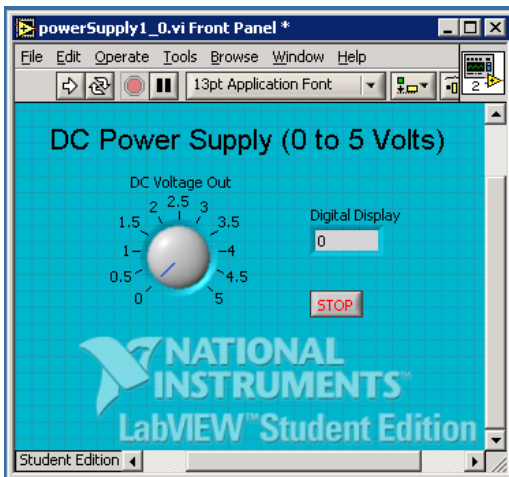
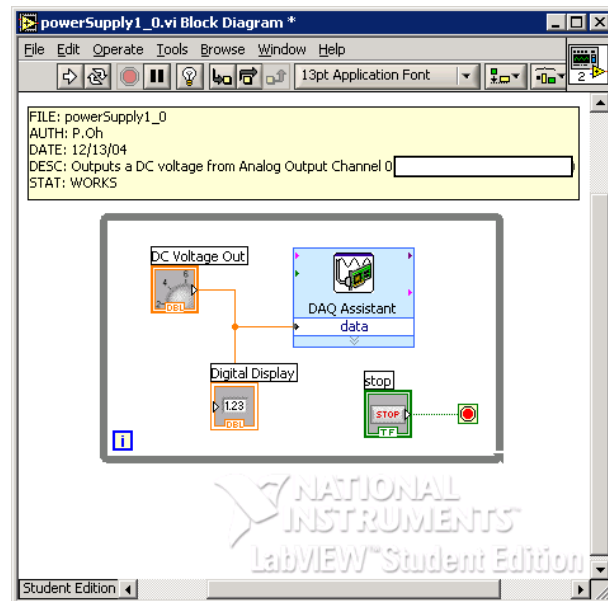

Figure 1A: Virtual Power Supply Front Panel
Figure 1B: Virtual Power Supply Block Diagram
Step 1: Launch LabVIEW to create the following front panel (Figure 1A). A while-loop control is used for block diagram (Figure 1B)
In the block diagram, the DAQ Assistant control is inserted as follows: Right mouse click – Measurement I/O – NIDAQmx – DAQ Assist. Complete your wiring as shown in Figure 1B. Note: It is also a good idea to add filename, creation date, author, and program description details as a text comment.
Step 1: Create the front panel and block diagram given in Figures 1A and 1B respectively.